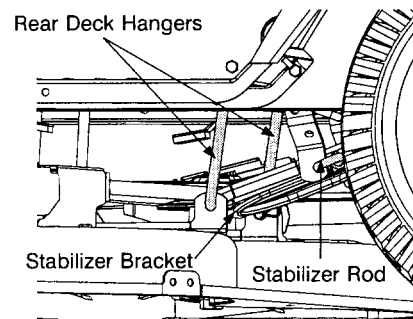

FIGURE 21
- Remove the hairpin clips which secure the rear deck hangers to the deck stabilizer bracket. See Figure 21. Retain the hairpin clips.